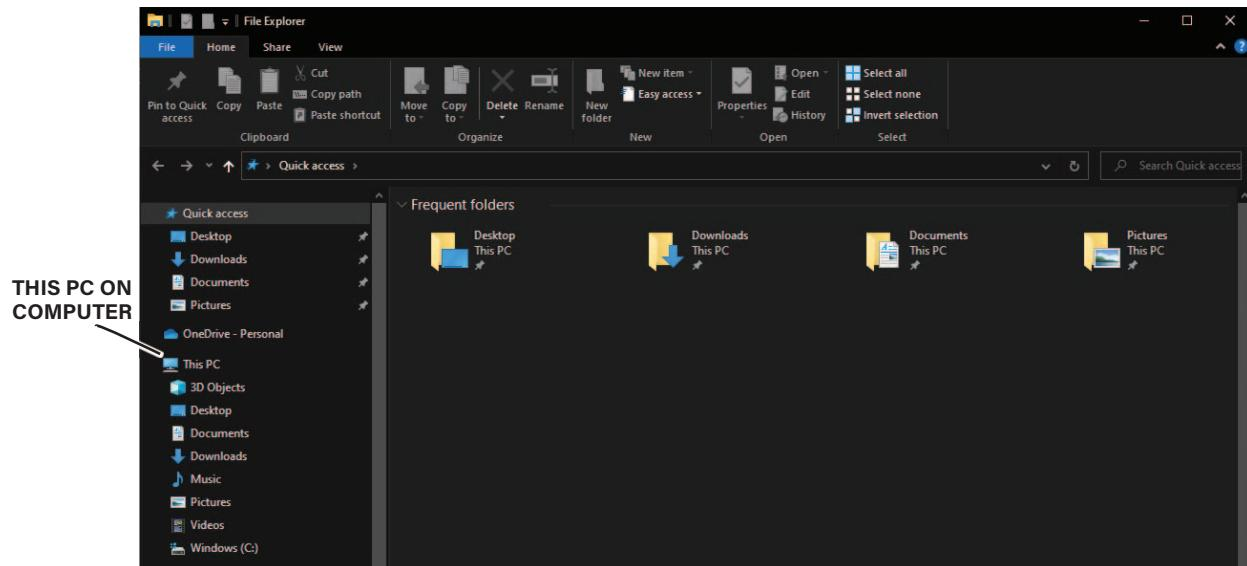

Figure 25. Computer Dialog
- A. Open Windows File Explorer and right-click This PC of the computer, as shown in figure 25, and click the Properties option.